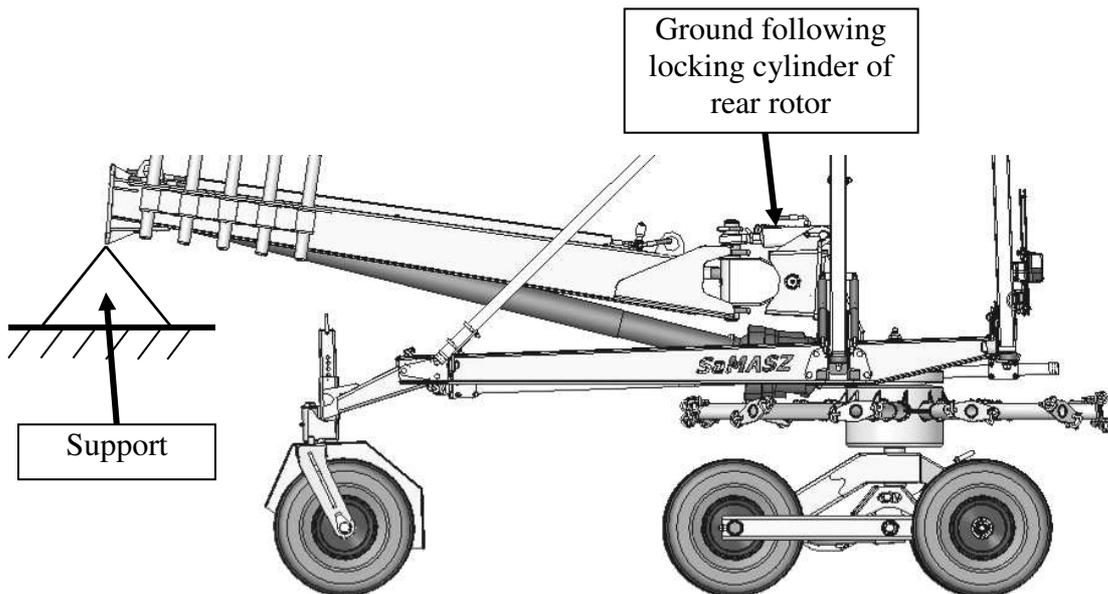

Fig. 25. Supporting rear section of linkage to avoid breaking the ground following mechanism of rear rotor
- ❑ Support rear section of the linkage so ground following locking cylinder of the rear rotor is not tensed (**Fig. 25**),